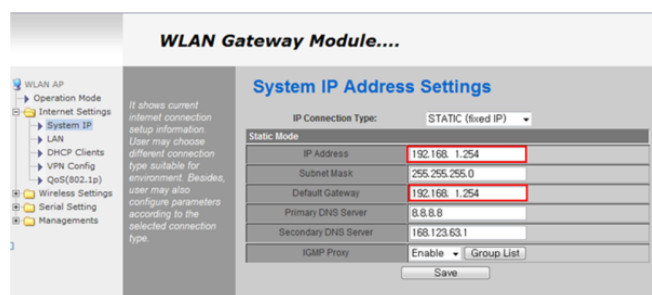

Figure 6.2 - WLAN unit IP-address input window
- 2) Enter the menu **Internet Settings -> System IP**. For our example we give IP-address **192.168.1.254** to WLAN-unit. **Default Gateway** is **192.168.1.254** and push **Save** (View figure 6.2).